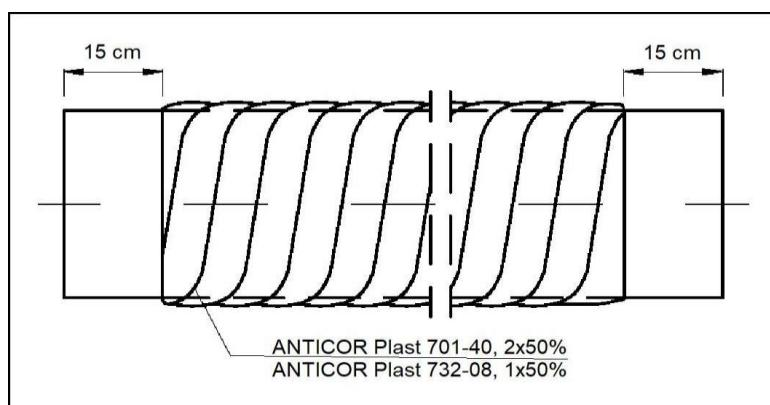

Figure 3. Steel pipe diagram
1. Spiral the ANTICOR Plast 701-40 tape around under slight pre-tension, **with the plastic mass facing the protected surface**, double wrap with 50% overlap, covering around 5 cm of the existing insulation with the first winding and approx. 10 cm with the second one (see Figure 3).
3. Wrap the ANTICOR Plast 732-08 tape under tension, with 50% overlap, around the entire surface of the coating that was previously formed with the ANTICOR Plast 701-40 tape. Tension of the tape should ensure its adhesion to the previously applied coating without wrinkles and air pockets (see Figure 3).